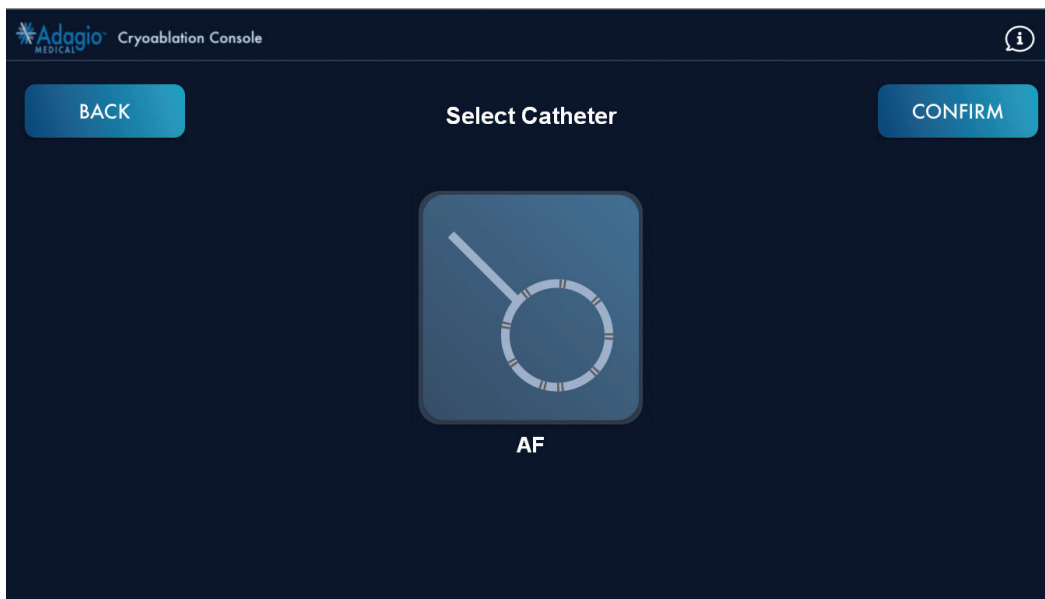

Figure 29 – Catheter Selection Screen Image
4. Select the Catheter for use in the procedure as shown in *Figure 29*.